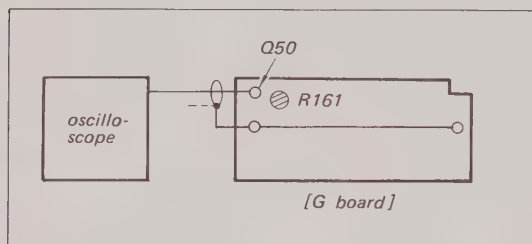

Fig. 8-31. Color E-to-E level adjustment test setup
2. Connect the scope to the emitter of Q50 on the G board. See Fig. 8-31.